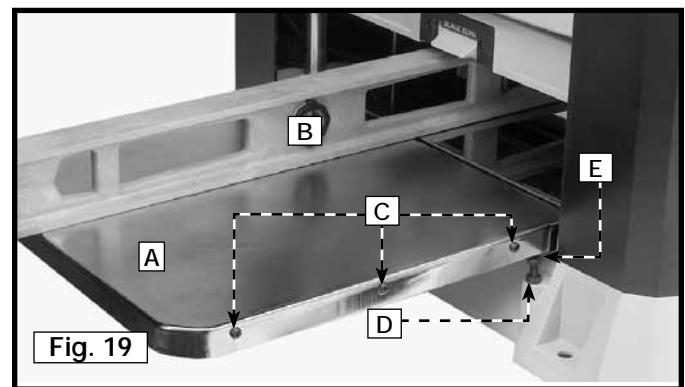

Fig. 19
For optimum performance, level the table extensions, one of which is shown at (A) Fig. 19, with the planer table. To check and adjust:
1. Place a straight edge (B) Fig. 19 on the planer table with one end of the straight edge extending out over the infeed table extension (A). Check to see if the table extension is level with the planer table on both sides of table extension.
2. If an adjustment is necessary, loosen the locknut (D) and adjust the stop screw (E) on each side of the table (A). When they are level, tighten the locknut.